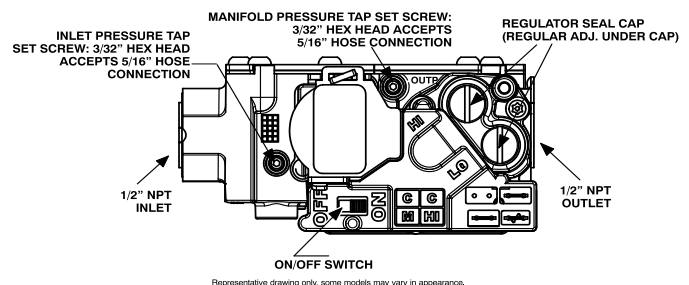

Fig. 64 – Gas Valve with Tower Pressure Ports
1. Adjust manifold pressure to obtain low fire input rate. See Fig. 64.
- h. Remove regulator adjustment cap from low heat gas valve pressure regulator and turn low-heat adjusting screw (3/16 or smaller flat-tipped screwdriver) counterclockwise (out) to decrease input rate or clockwise (in) to increase input rate. See Fig. 64.
2. Adjust manifold pressure to obtain high fire input rate See Fig. 64.
- b. Remove regulator adjustment cap from high-heat gas valve pressure regulator and turn high heat adjusting screw (3/16-in. or smaller flat-tipped screwdriver) counterclockwise (out) to decrease input rate or clockwise (in) to increase input rate. See Fig. 64.